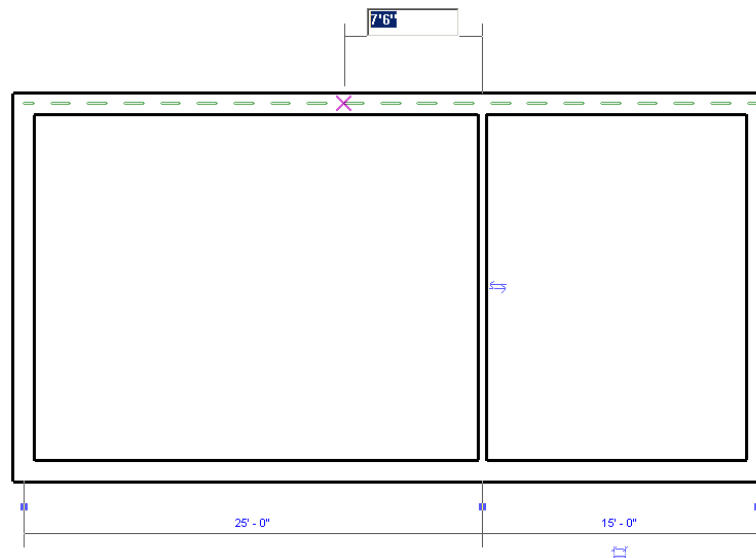

Figure 2-50 Specifying the starting point of the second interior wall
1. To sketch the second interior wall, move the cursor to the upper endpoint of the interior wall and then move the cursor horizontally toward the left. Enter **7'6"**, when the temporary dimension and the intersection object snap appears, as shown in Figure 2-50.